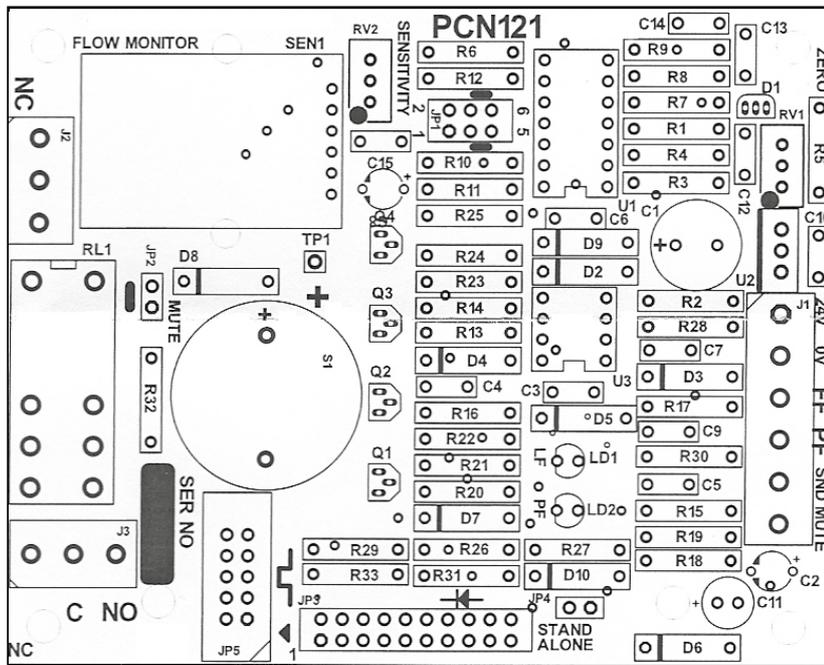

Fig 1C
- 16 Flow monitor see fig. 1C page 32